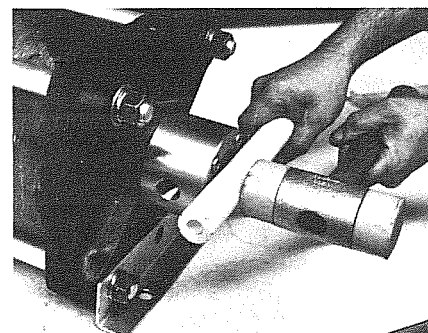

Figure 7-23, Tapping hydraulic piston body into oil end plate.
7.4.4 Lubricate smaller O.D. of piston body (61) with petrolatum and insert assembled piston body into mating hole in oil end plate. Use of mallet may be necessary to seat piston body fully into oil end plate because of the compression created by the piston rod seal (87). See Figure 7-23.